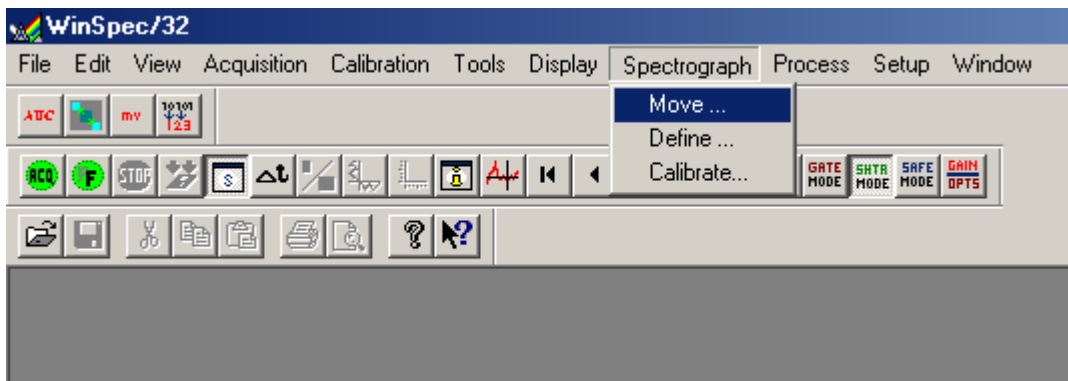

Figure 19: Location of moving the grating to center fluorescence spectrum.
- Before any optimization can begin, the fluorescence spectrum must be centered. This can be done by going to Spectrograph → Move... (See Figure 19)